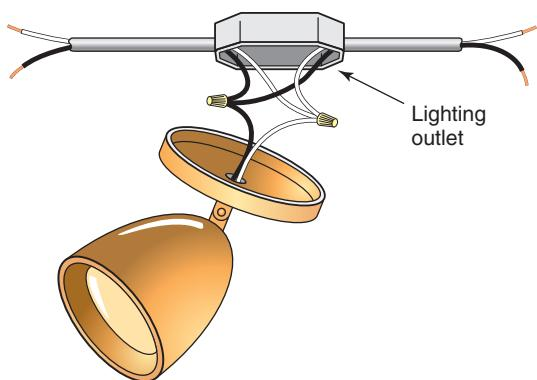

FIGURE 2-3 When a luminaire (lighting fixture) is connected to the branch-circuit wires, the outlet is called a *lighting outlet*. (Delmar/Cengage Learning)
- **A lighting outlet** is *An outlet intended for the direct connection of a lampholder or luminaire. See Figure 2-3.*